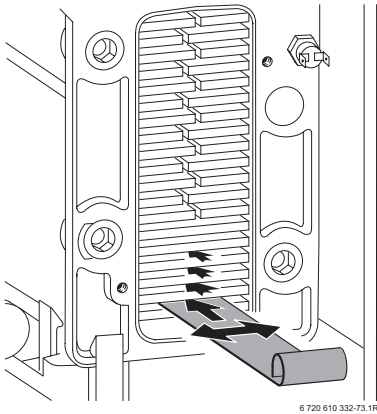

Fig. 51
- Loosen any deposits in the heat exchanger from top to bottom using the cleaning blade. Refer to fig. 51.